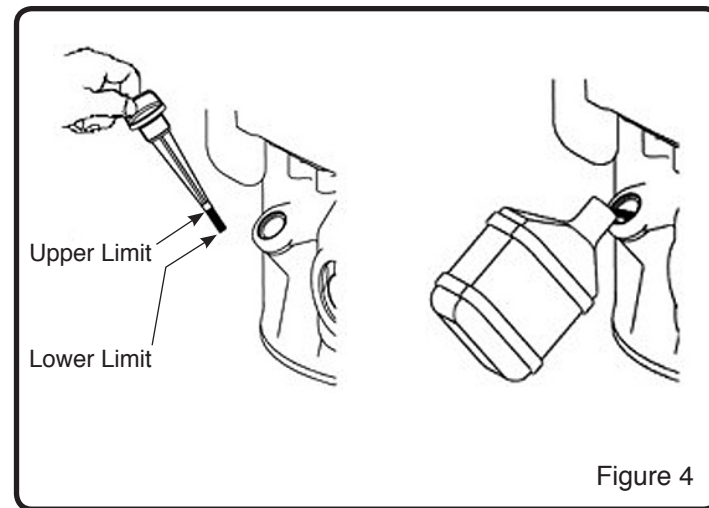

Figure 4
4. When oil level is full, the oil will be at upper limit on dipstick. If oil level is near or below the lower limit, oil must be added. (See figure 4)